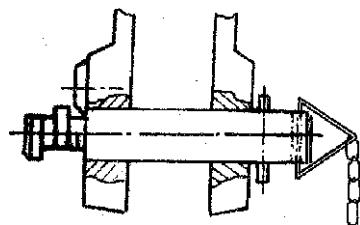

Fig2.Turn and push the fixed axis twice and let it enter the second tunnel
2.Anchor: Fixed axis is to be used to anchor the rope round the hoister. Connect the wire rope or the hanger with the fixed rope and tie the other end to the load, masts, etc. There is a relaxation-proofing tunnel on the fixed axis. When the fixed axis is inserted the hoister case, is must be turned twice to the second tunnel till it is clamped tightly (Fig.2)